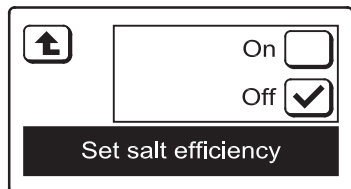

FIG. 66
6. Press the **SET SALT EFFICIENCY** button and the display will change to show the **Set salt efficiency** screen (See Figure 66).